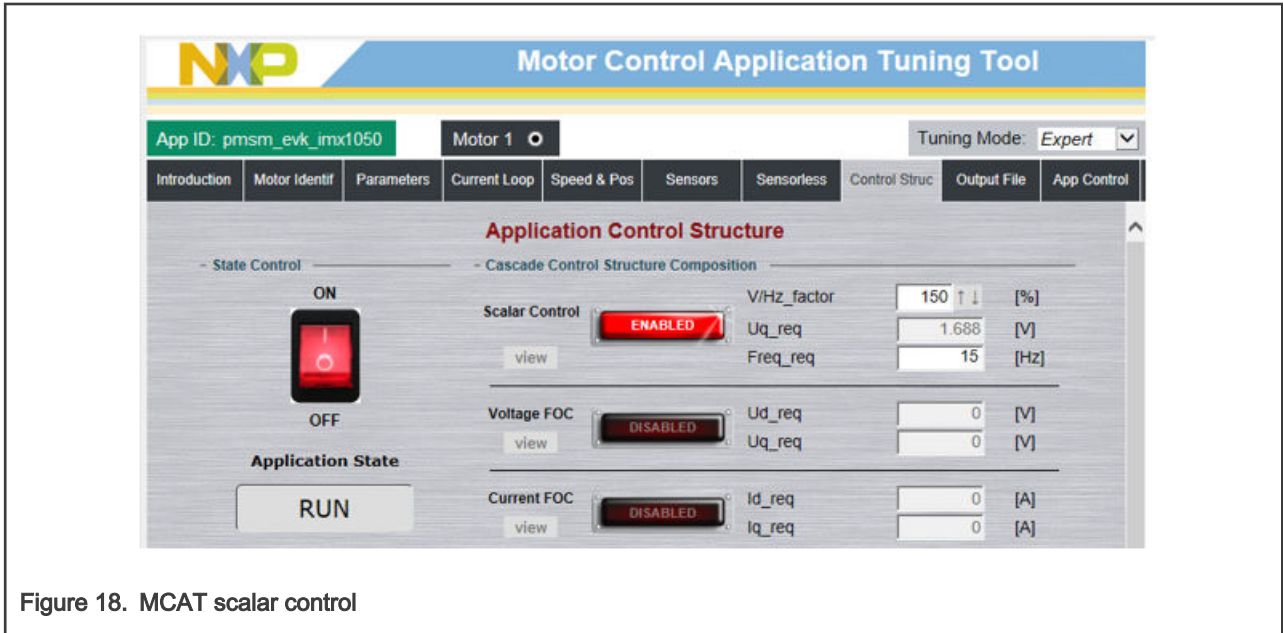

Figure 18. MCAT scalar control
3. Set the required frequency value in the “Freq\_req” field; for example, 15 Hz in the “Scalar Control” section. The motor starts running (see Figure 18).